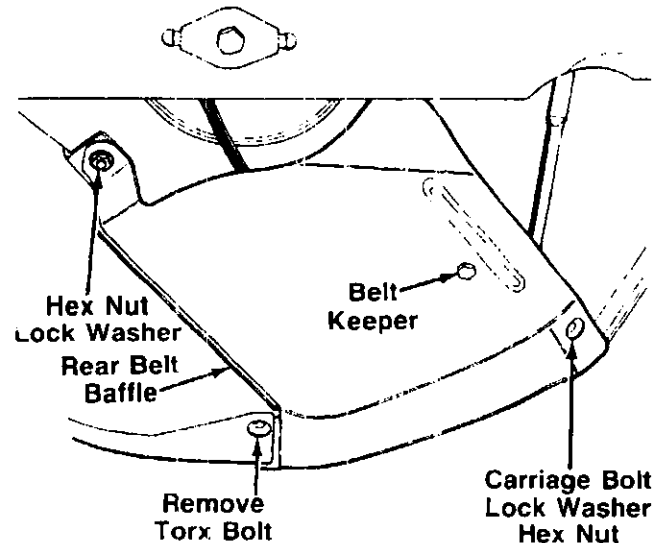

FIGURE 24.
4. Remove the rear belt baffle by removing the lock washer and hex nut shown in figure 24. Then remove one Torx bolt, using a #27 Torx driver. A 9/64" Allen wrench may also be used. Then remove one carriage bolt, lock washer and nut as shown.
When reassembling the rear belt baffle, make certain the belt keeper is outside of the belt, and the edge of the rear belt baffle is between the rear chute baffle and the rear panel as shown in figure 24. Make certain to tighten all nuts and bolts securely. If plastic was placed under the gas cap, be certain to remove it.